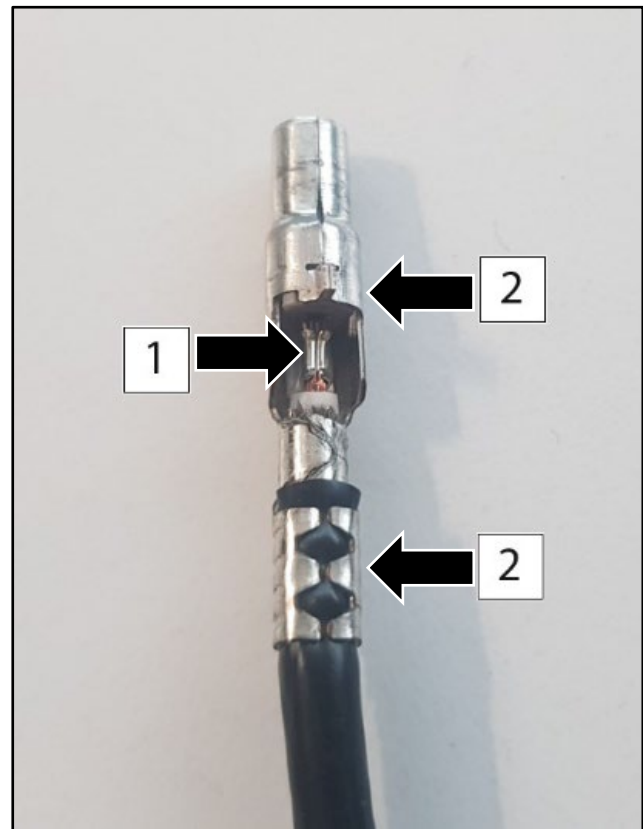

Figure 9
11. Make sure the inner part of the connector (1) is isolated from the outer part of the connector (2) when you apply the copper tape (refer to Figure 9).